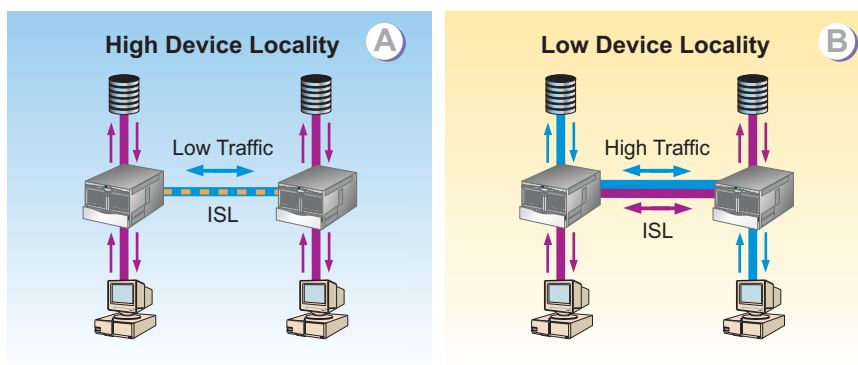

Figure 3-13 Device Locality
Devices that communicate with each other through the same director or switch have high locality. Devices that must communicate with each other through one or more ISLs have low locality. Part (A) of Figure 3-13 illustrates high device locality with little ISL traffic. Part (B) of Figure 3-13 illustrates low device locality.